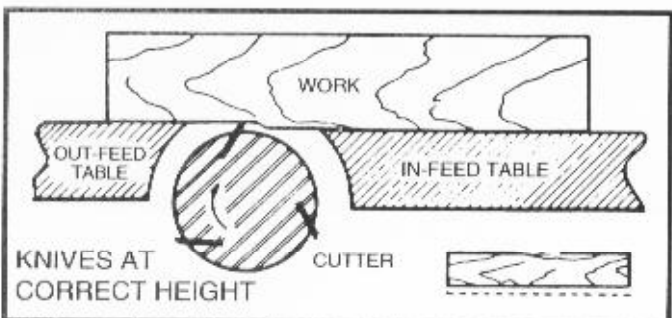

Fig. 24
13. As a final check, run a piece of work slowly over the knives for 6 to 8 inches. The wood should rest firmly on both tables as shown in Fig. 24, with no open spaces under the finished cut.